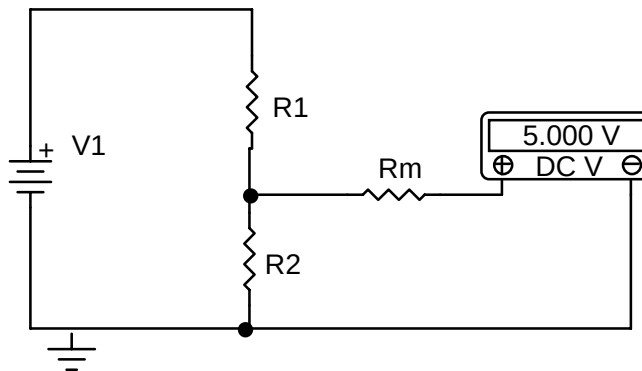

Figure 1. Meter Loading Effects.
Introducing a measuring instrument into any electric circuit causes a loading error. This loading error is due to the internal resistance of the instrument's circuits. This resistance can have a fixed value or depend on the range setting of the instrument. Voltage measurement places the internal resistance of the instrument in parallel with the circuit element. Figure 1 shows a voltmeter with an internal resistance of R_m measuring the voltage in a voltage divider circuit.
- 1.) Construct the circuit in Figure 1 using $10\text{k}\Omega$ resistors for both R_1 and R_2 .